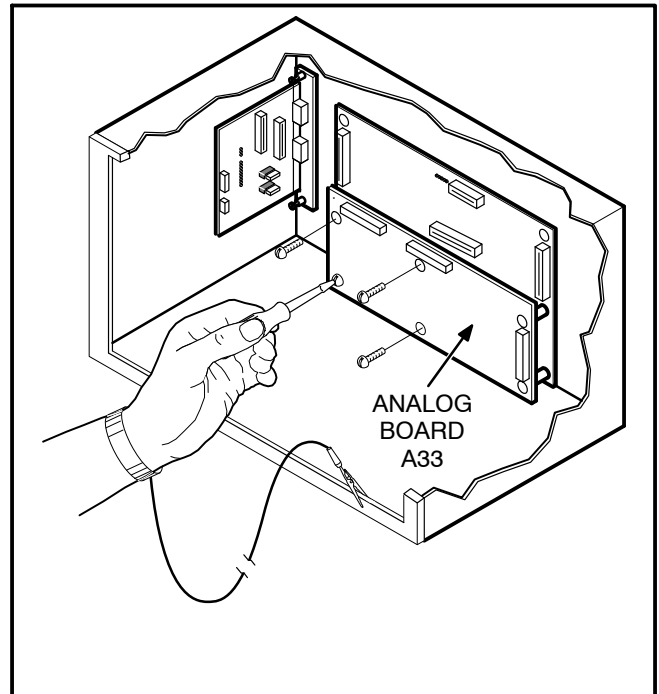

FIGURE 8-3. PREPARING TO MOUNT GCM
5. Use a Phillips screwdriver to remove the four analog board mounting screws shown in Figure 8-3.